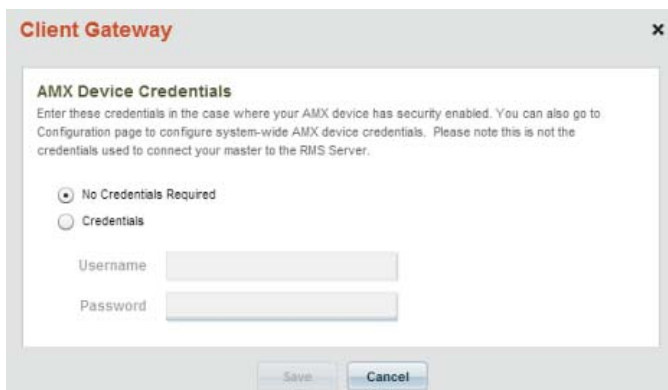

FIG. 162 Client Gateway - AMX Device Credentials dialog
2. Click the **Edit** button to open the *Client Gateway - AMX Device Credentials* dialog (FIG. 162):